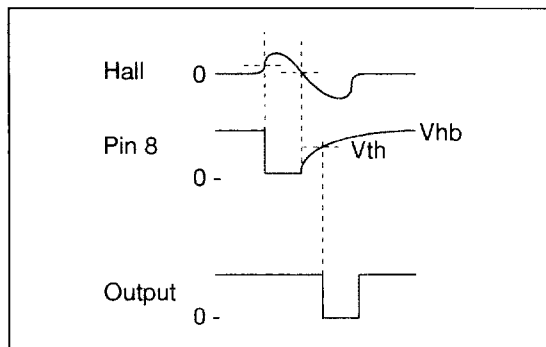

Figure 2
3. Refer to Figure 2. Apply to HA13499AMP only.